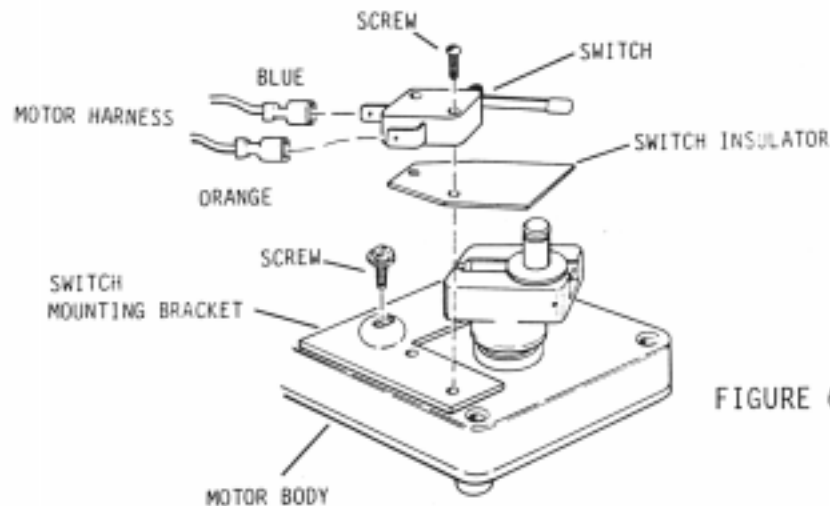

FIGURE 6. MOUNTING THE SWITCH BRACKET AND SWITCH
7. MOUNTING THE SWITCH BRACKET AND SWITCH (See Figure 6)